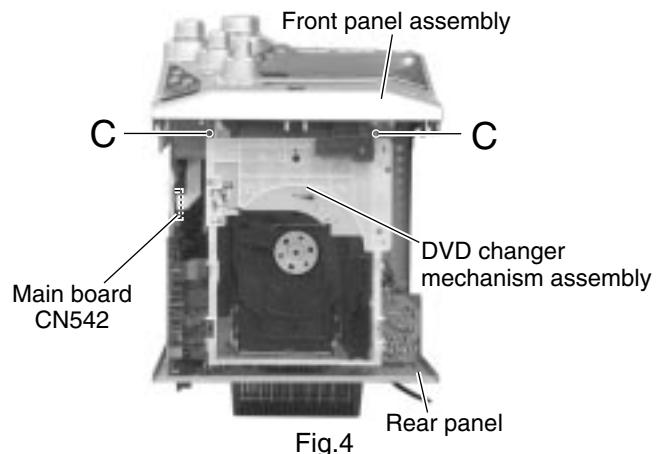

Fig.4
■ Removing the DVD mechanism assembly (See Fig.4 to 7)